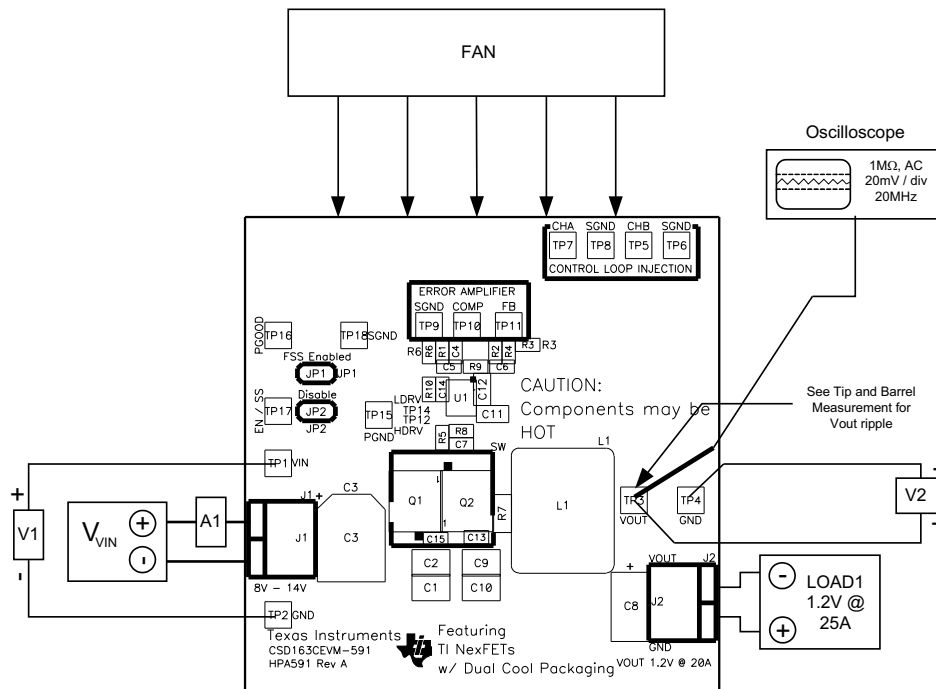

Figure 2. CSD163CEVM-591 Recommended Test Set-Up
Shown in Figure 2 is the basic test set up recommended to evaluate the CSD163CEVM-591. Note that although the return for J1 and JP2 are the same system ground, the connections should remain separate as shown in Figure 2.
2. Prior to connecting the DC input source, V_{IN} , it is advisable to limit the source current from V_{IN} to 4A maximum. Make sure V_{IN} is initially set to 0V and connected as shown in Figure 2.
3. Connect V_{IN} to J1 as shown in Figure 2.
4. Connect ammeter A1 between V_{IN} and J1 as shown in Figure 2.
5. Connect voltmeter V1 to TP1 and TP2 as shown in Figure 2.
6. Connect voltmeter V2 to TP3 and TP4 as shown in Figure 2.
8. Place fan as shown in Figure 2 and turn on making sure to blow air directly across the evaluation module.